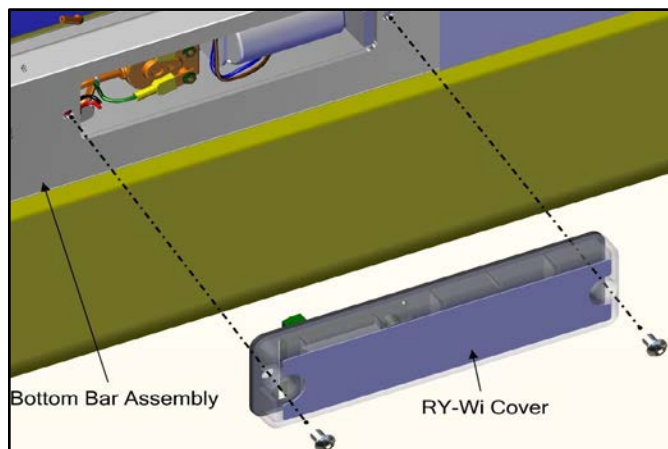

Figure 28
1. The kill switch is mounted in the bottom bar assembly, on the end below the door motor. To access the switch, first remove the RY-Wi cover. (See Figure 28.)